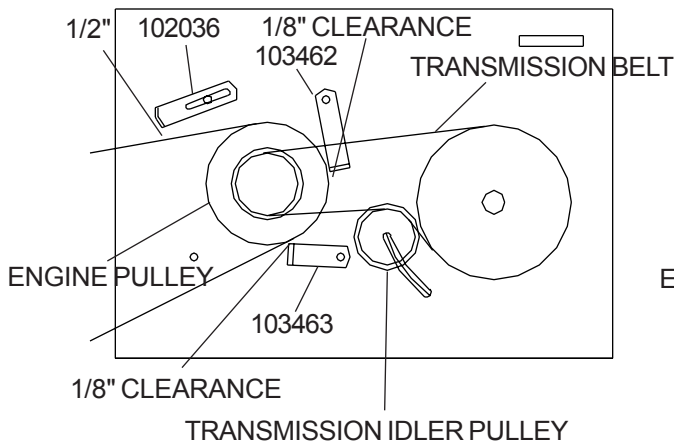

Figure 4
To increase the tension of the transmission belt, loosen the nut on the underside of the transmission idler pulley located under the rear deck, slide the idler assembly inward to increase tension and tighten the nut to secure. See figures 4 & 5.
Belt guides under rear deck are adjusted as shown in figures 4 and 5
6. Loosen the engine bolts with belt guides and rotate them away from the engine pulley. Belt guides can be seen in figures 4 and 5 on page 10.